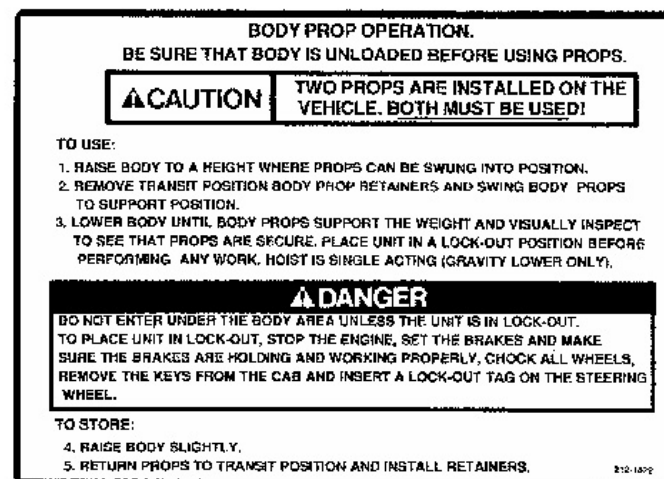

Figure 14. Body Prop Danger and Caution Decal,
- Figure 14 shows the DANGER and CAUTION labels about the body props.